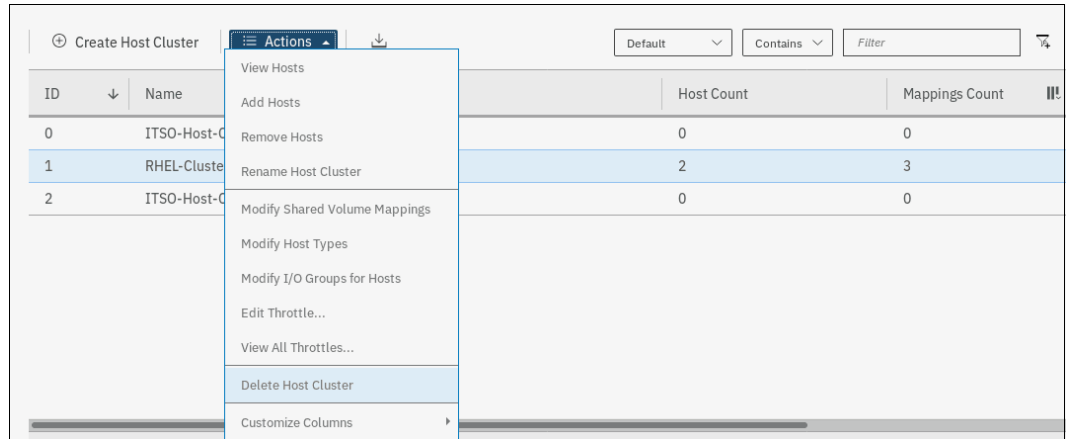

Figure 5-103 Delete Host Cluster selection
2. Right-click the wanted host cluster and select **Delete Host Cluster**, as shown in Figure 5-103.